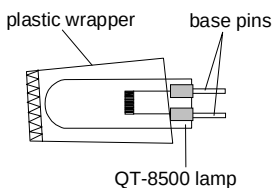

Figure 3-3. Proper way to handle a QT 8500 lamp
6. Open the QT 8500 lamp box and remove the lamp in its plastic wrapper. Carefully open the end of the wrapper so that *only* the two lamp base pins are exposed (see Figure 3-3). Hold the lamp within its wrapper to avoid touching the lamp glass. If you accidentally touch the lamp glass, clean it with an isopropyl alcohol wipe.